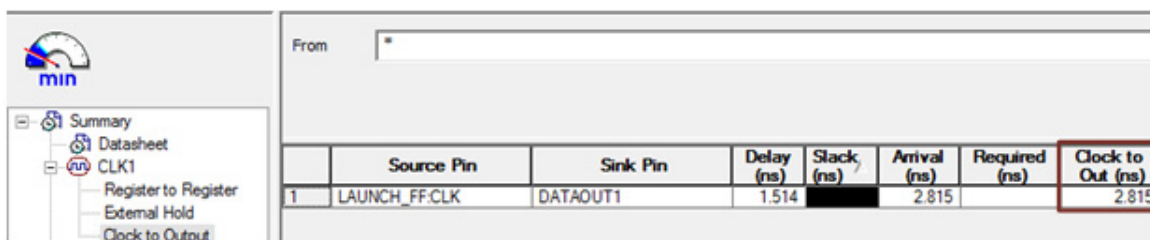

Figure 15 • SmartTime Showing Clock-to-Output Delay for Minimum Delay Analysis
2. In the Minimum Delay Analysis view, examine the **Clock-to-Output** path set to get $T_{min,best}(data)$, as shown in Figure 15.